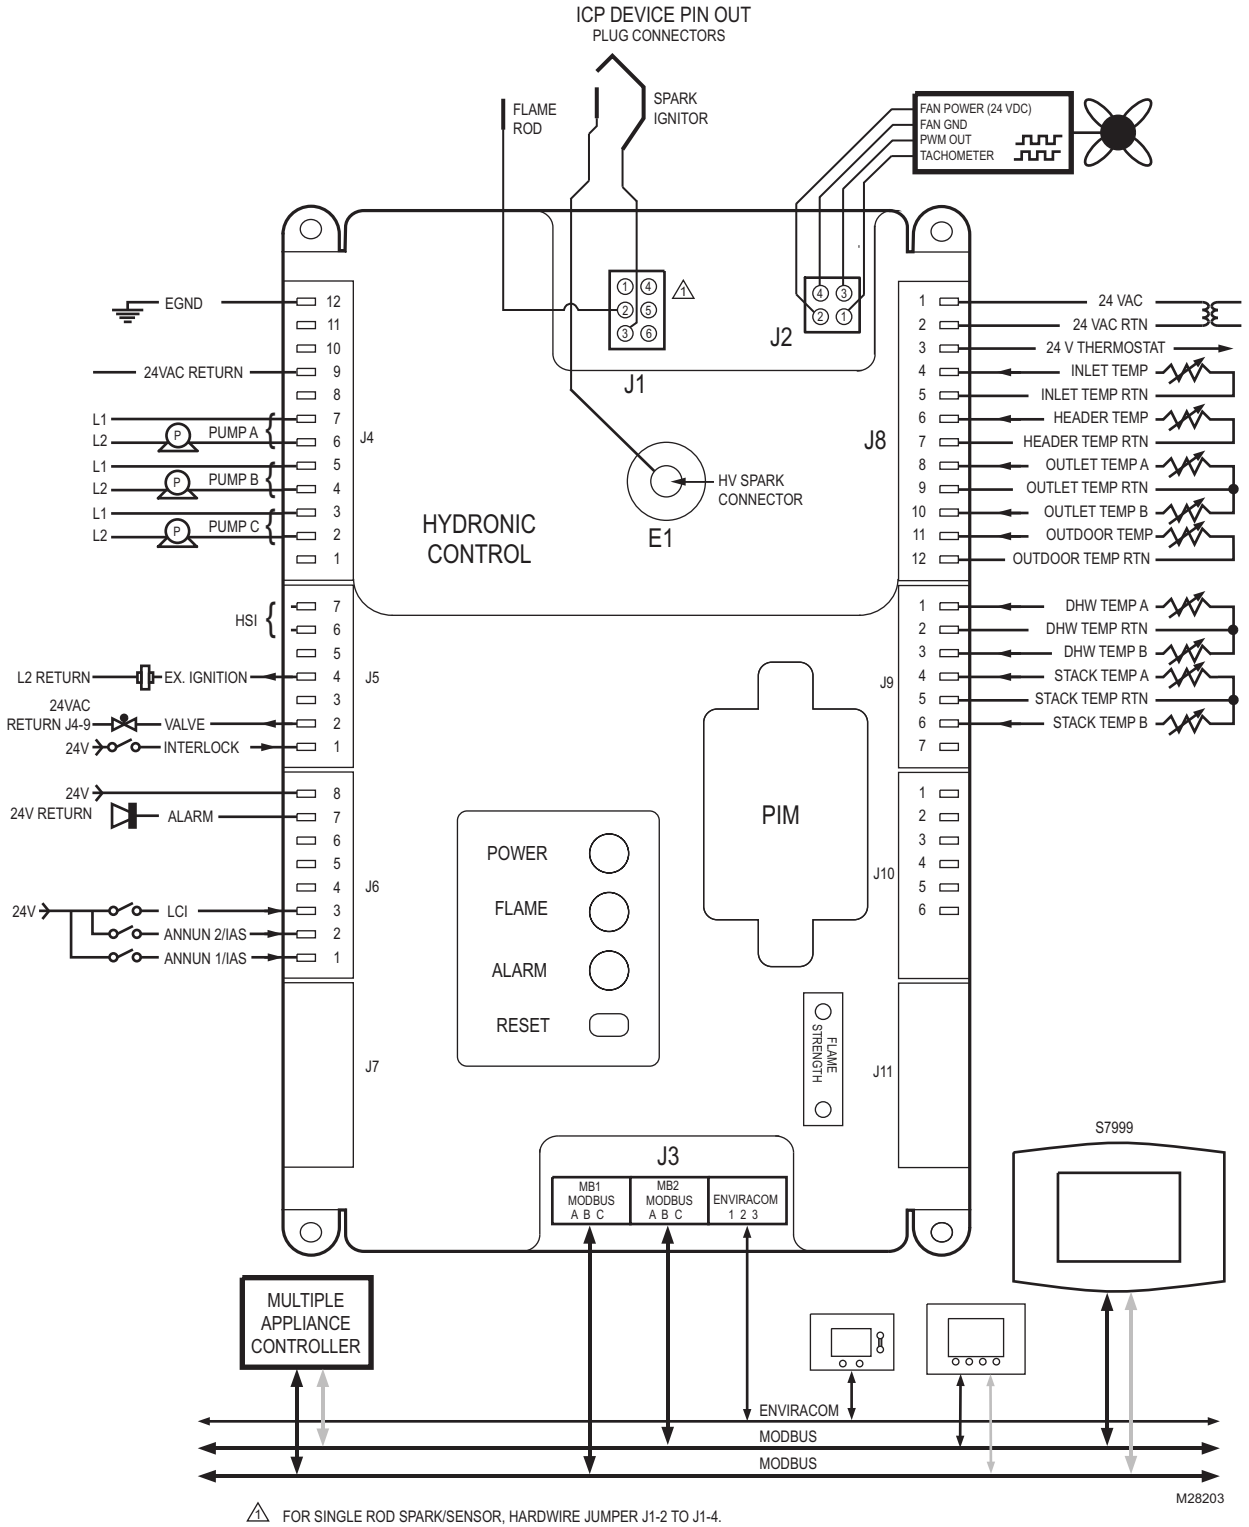

Fig. 5. R7910B device pin out.
2. Refer to the wiring diagram provided as part of the appliance or refer to Fig. 5.